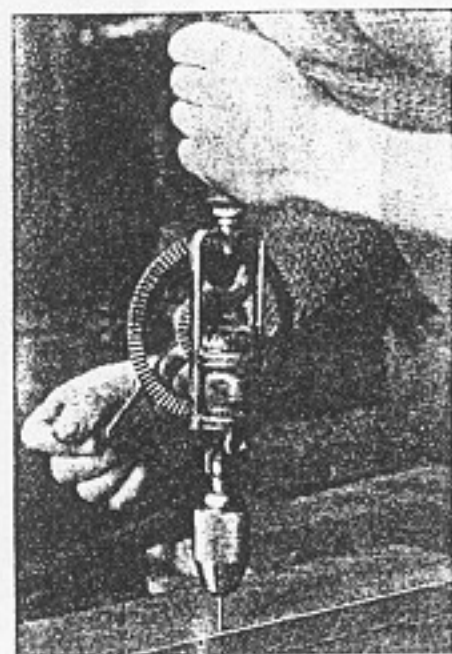

Fig. 282. Boring hole in hard wood with a nail.
8. In hard woods it is well to bore a hole for a nail, using a bradawl or a hand drill. The head of the nail is cut off, and it is used in the hand drill instead of a fine drill point (Fig. 282).